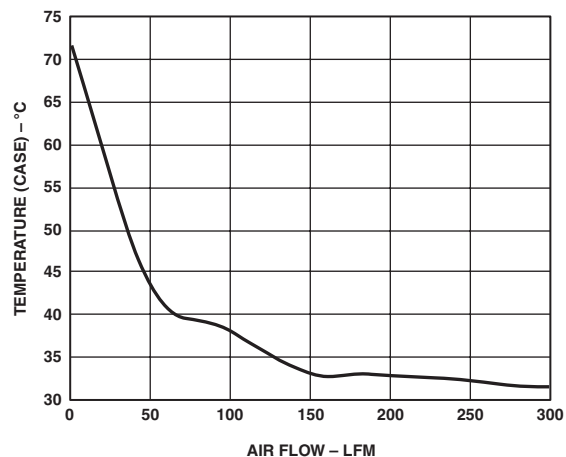

Figure 6. Temperature (Case) vs. Air Flow (Ambient)
- The unit rises to ~72°C (t_C) on the heat sink in still air (0 linear feet per minute (LFM)). 100 linear feet per minute (LFM) in either direction across the heat sink is the minimum recommended air flow. See Figure 6.